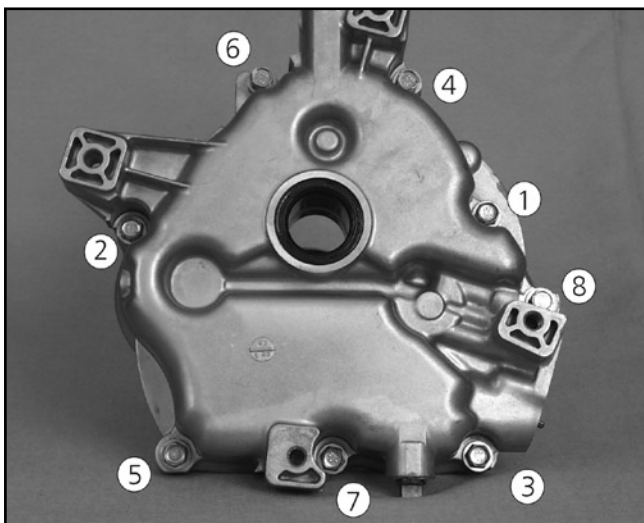

Figure 9-13. Crankcase Cover Bolt Tightening Sequence
13. Install the crankcase cover bolts and tighten (see Figure 9-13). Refer to Section 15 for torque specifications.